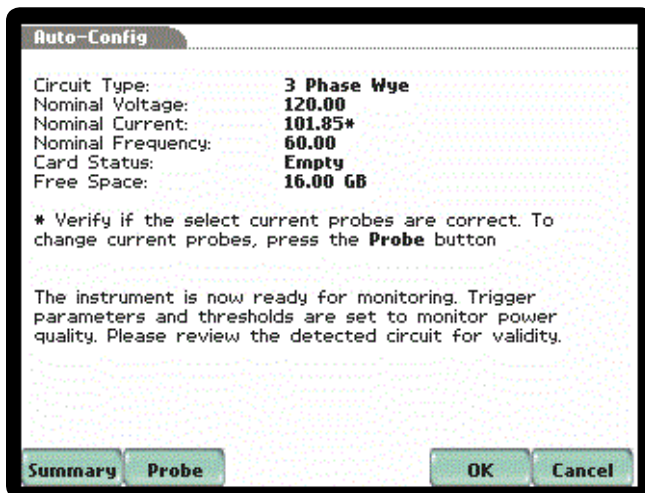

Figure 3a. The EP1 enables quick and easy set up.
As shown in Figure 3a, the EP1 not only provides a rich feature set, it is also quick and easy to set up. First, is an automatic setup that requires virtually no user programming. The user simply selects "Automatic Setup" from the Start/Setup button on the main page and the EP1 will sense the wiring configuration, nominal voltage and current, and set itself up using industry-standard settings. The user only has to select the CTs being used, which are easily chosen from an onscreen list. Once this is done and "OK" is pressed the analyzer is up and running. All parameters available in the EP1 will be recorded and trended automatically and will be monitoring correctly when unattended. The EP1's 4GB compact flash (CF) removable memory, the largest available, allows for ample storage for even the longest of surveys—even in situations with recurring triggers that would fill the memory of most other instruments and render them useless.